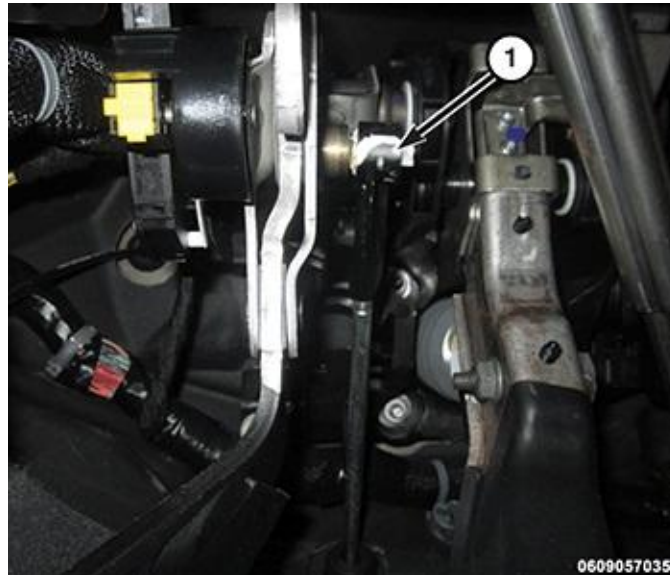

Fig. 6 Clutch Master Cylinder Rod
13. Connect the hydraulic clutch master cylinder rod (1) to the clutch pedal assembly (Fig. 6).